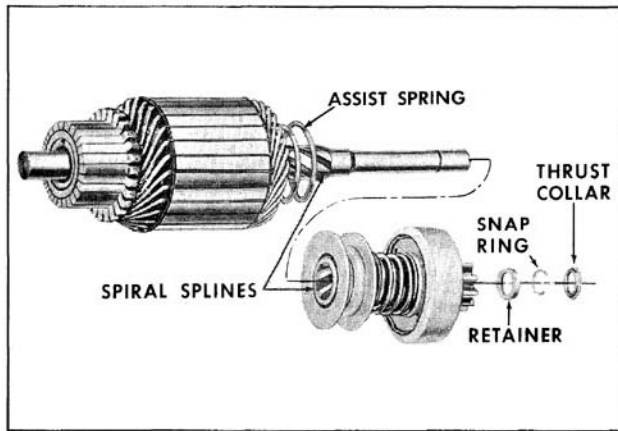

Fig. 13-49 Overrunning Clutch
- a. Remove thrust collar from armature shaft. (Fig. 13-49)
- b. Slide clutch assembly onto armature shaft with pinion away from armature. (Fig. 13-49).